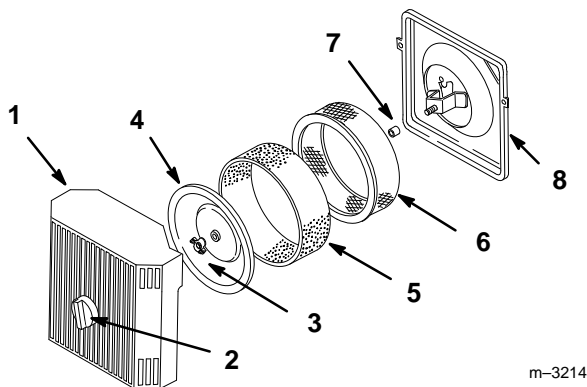

Figure 15
3. Clean around the air cleaner to prevent dirt from getting into the engine and causing damage. Unscrew knob and remove the air cleaner cover (Fig. 15).
4. Carefully slide the foam element off the paper element (Fig. 15).
5. Unscrew the cover nut and remove the cover and paper element (Fig. 15).
1. Carefully slide the foam element onto the paper air cleaner element (Fig. 15).
2. Slide the air cleaner assembly and cover onto the long rod. Now screw the cover nut finger-tight against the cover (Fig. 15).
3. Install the air cleaner cover and hook latches (Fig. 15).